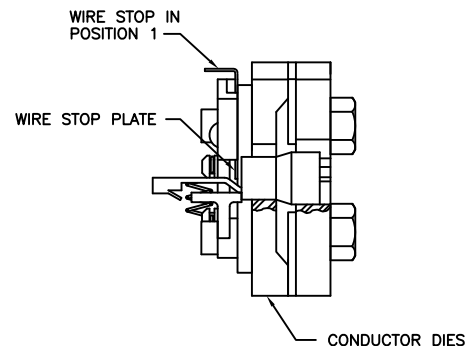

FIG. 2
- H6E Locate the terminal according to the Positioning Instructions (Fig. 2) and insert the stripped end of the wire into the terminal barrel to the wire stop. While holding the wire in place, and without changing the terminal position, crimp the terminal by closing the tool handles completely until the ratchet disengages, allowing removal of the crimped terminal.